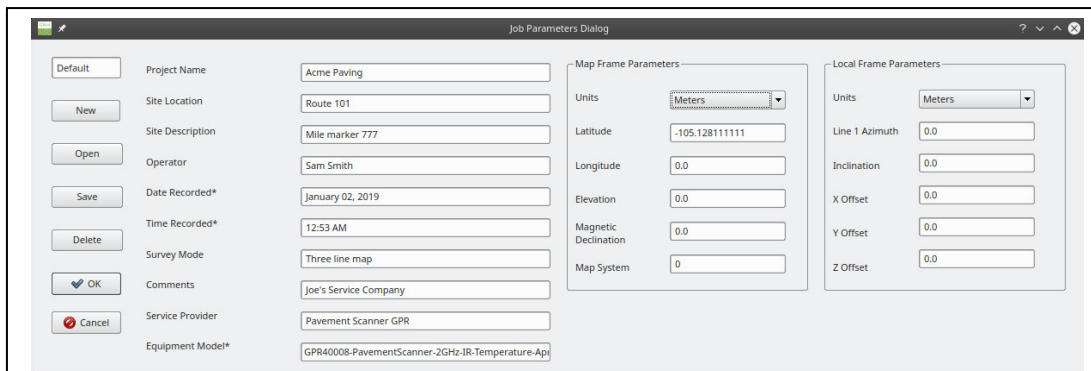

Figure 6. Jobsite information dialog.
7. Before beginning a survey, it is important to capture information about the jobsite. Press the Jobsite information button  to bring up the dialog shown in Figure 6. The information entered into this dialog will be listed in any reports that will be generated by the software. To type into dialog field, click on the field to place the cursor, then press the  icon on the taskbar to bring up the keyboard.
8. Before beginning a survey, it is important to capture information about the jobsite. Press the Jobsite information button to bring up the dialog shown in Figure 6. The information entered into this dialog will be listed in any reports that will be generated by the software. To type into dialog field, click on the field to place the cursor, then press the  icon on the taskbar to bring up the keyboard.